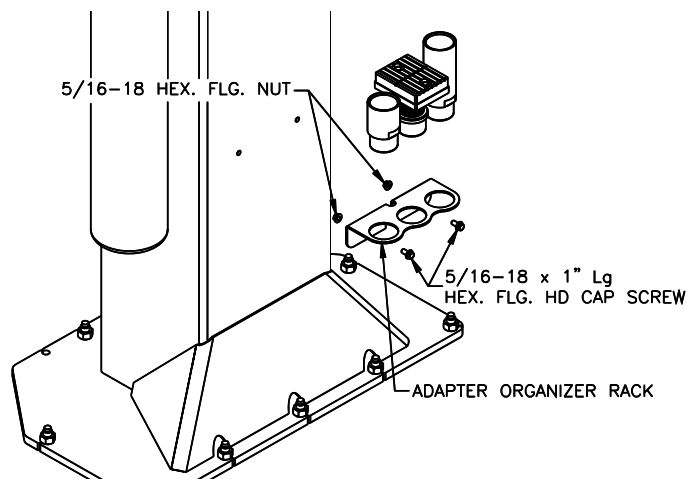

Fig. 20 – Adapter Rack Installation
- 63) Locate the two pre-drilled holes on the back of each column 19" up from the top of the base plate. Center the adapter rack and attach with 5/16"-18NC x 1" Lg hex flange cap screw and 5/16" hex flange nut (**Fig. 20**).